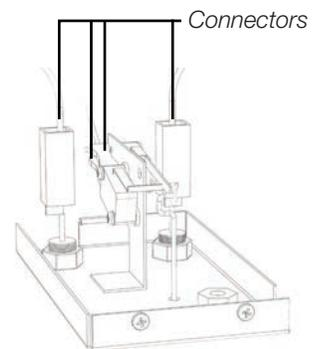

Fig. 1.1
2. Unplug the tank lid's connectors (fig. 1.1) and the valves (fig. 1.2).
2. Unplug the tank lid's connectors (see section 8.3, fig.1.1) and the probe connector.